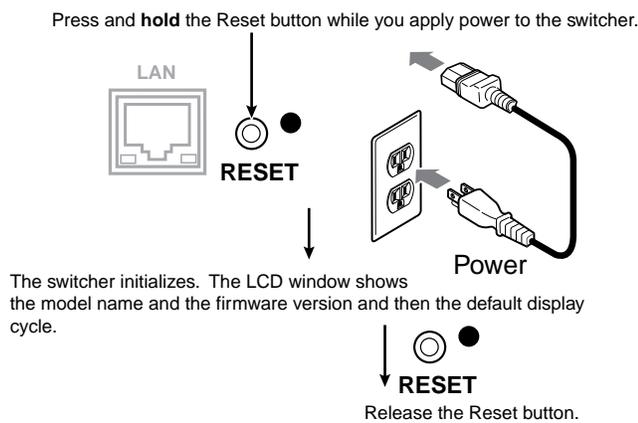

Figure 3-34 — Hard reset
2. Press and **hold** the Reset button on the rear panel **while** you apply AC power to the switcher (figure 3-34).